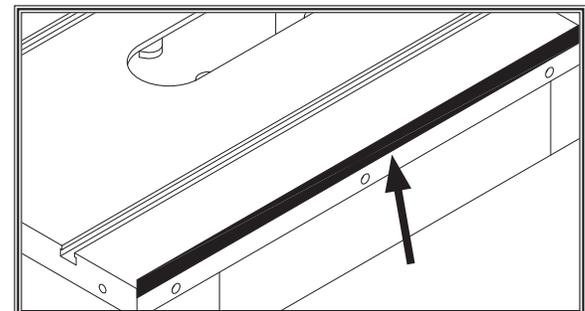

Figure 23. Masking tape location for adjusting the extension wing down.
- If outside end of extension wing tilts up, place strip of masking tape along top edge of main table to shim end of extension wing down (see **Figure 23**).